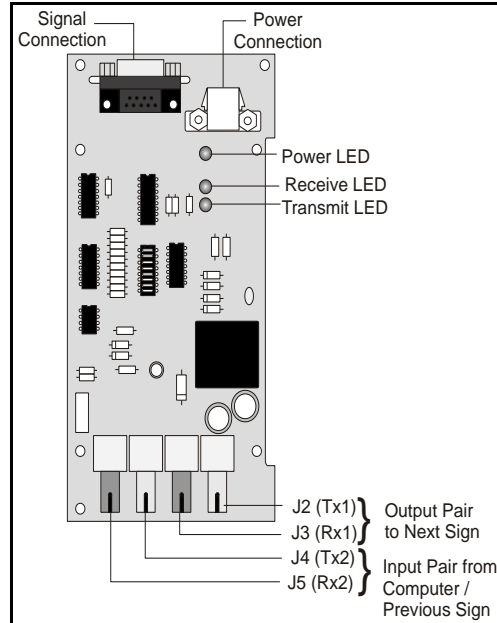

Figure 37: Fiber Optic Board
2. With a 1/8" Allen wrench, turn the latch access fasteners a quarter turn as seen in **Figure 37** on the following page. The top one should be turned clockwise and the bottom one counter-clockwise.
1. Disconnect the power and signal connections (refer to **Figure 37** above for disconnection of power).